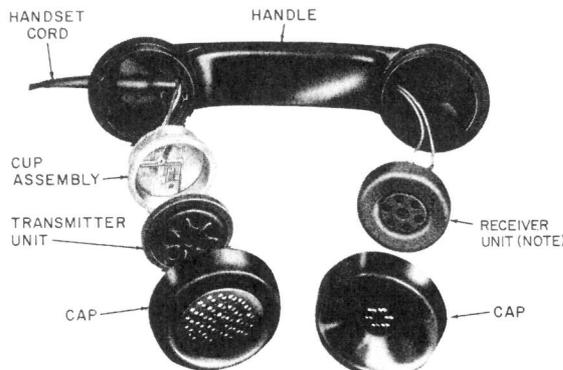
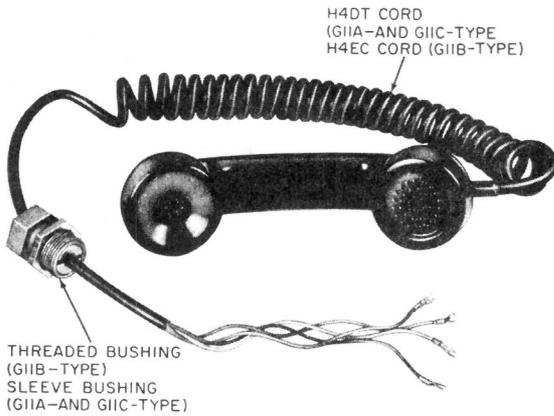

Fig. 1—G Series Handset
Fig. 4—G11-Type Handsets
- Revise Fig. 1, 2, and 12, and replace Fig. 4 and 6
2.01 The G-series handset (Fig. 1) consists of a molded handle, receiver unit, transmitter unit, transmitter cup, receiver and transmitter caps, and a handset cord.